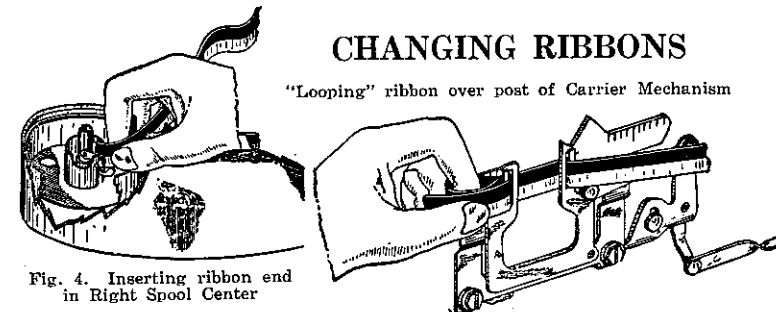

Fig. 4. Inserting ribbon end in Right Spool Center
14. RIBBON CARRIER. See explanation of Fig. 4.
16. RIBBON CARRIER. See explanation accompanying Fig. 4.